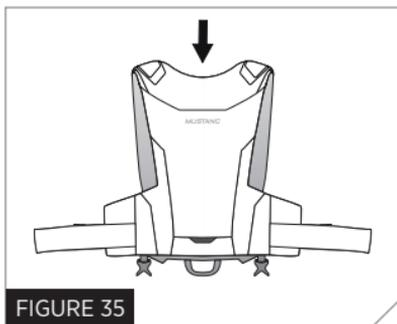

FIGURE 35
10. Take the head pillow (the part that supports your head/neck when inflated) and tuck into back of the PFD, closing Velcro™ compartment (Fig. 35)